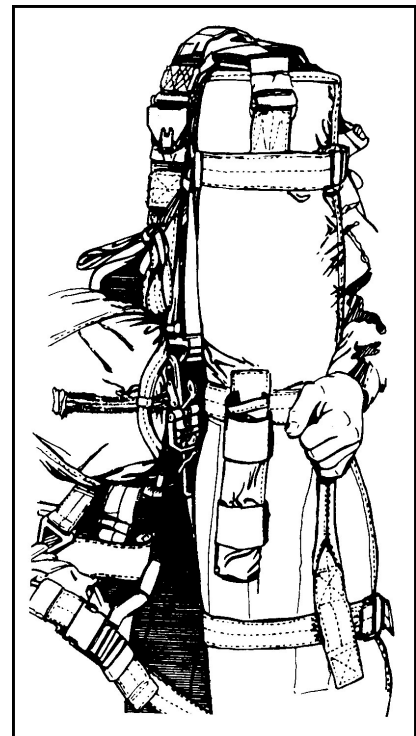

Figure 12-58. Attaching equipment to parachutist.
- d. Grasp the ejector snap of the modified HPT lowering line already attached to the ALICE pack and route (from bottom to top) through the D-ring opening at the center of the pack, upper tie-down chafe loop, and top D-ring located at the aft end. Position the 18-inch strata blue marking on the modified HPT lowering line even with the D-ring on top of the AT4JP (Figure 12-58).